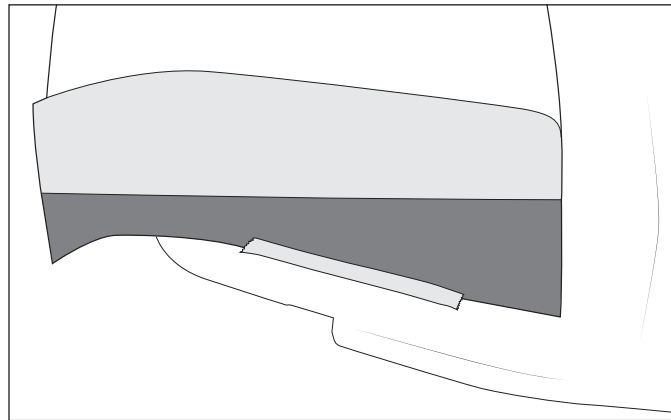

*Figure 9*
9. Once the material has been worked around this contour, cut two reliefs in the locations shown below. (fig. 9).